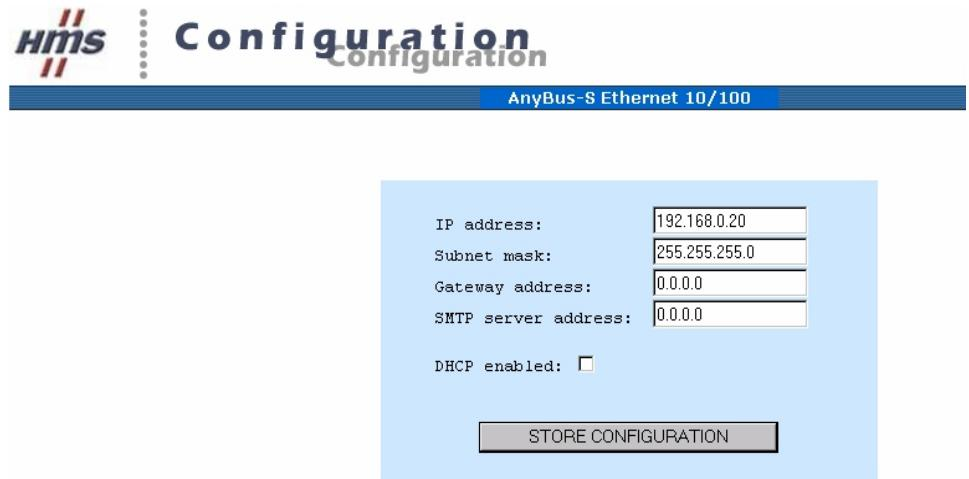

Figure 5. Configuration Web Page
4. Go to the intranet address that was set by the DIL switches. The screen shown in Figure 5 will be displayed. Input the desired IP address and Store Configuration.